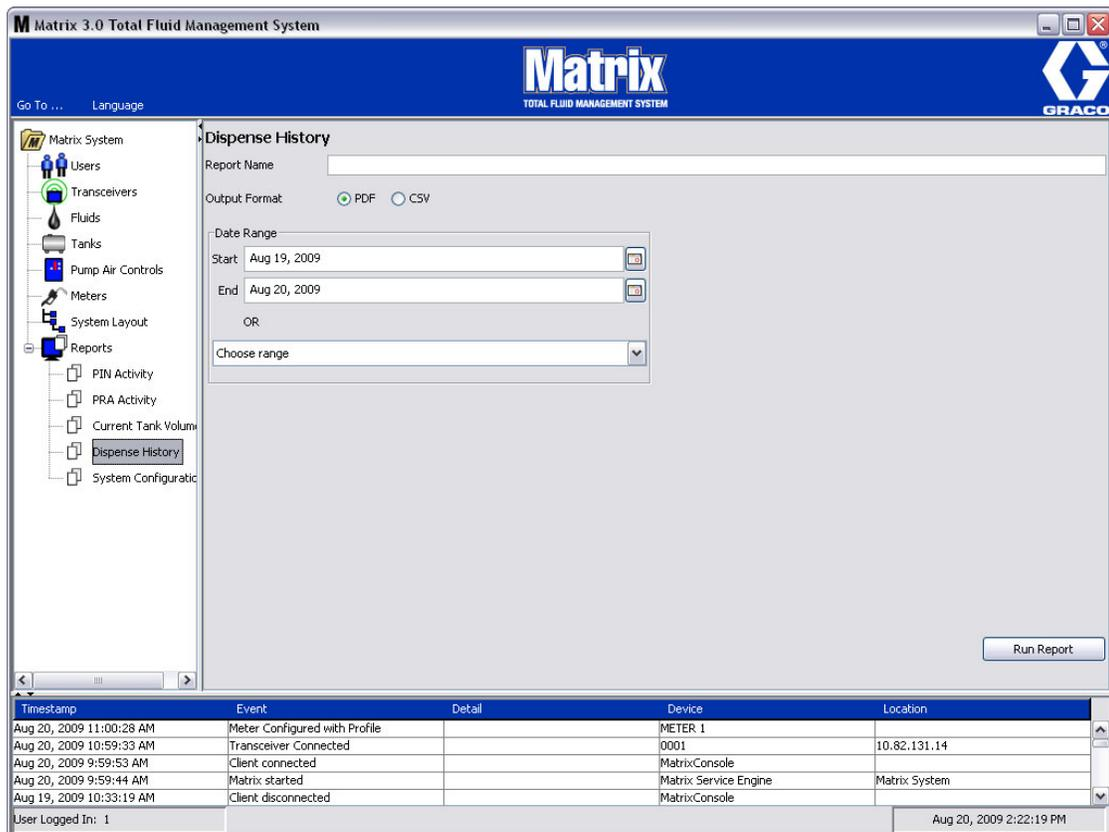

FIG. 107
- **Dispense History (FIG. 107)**